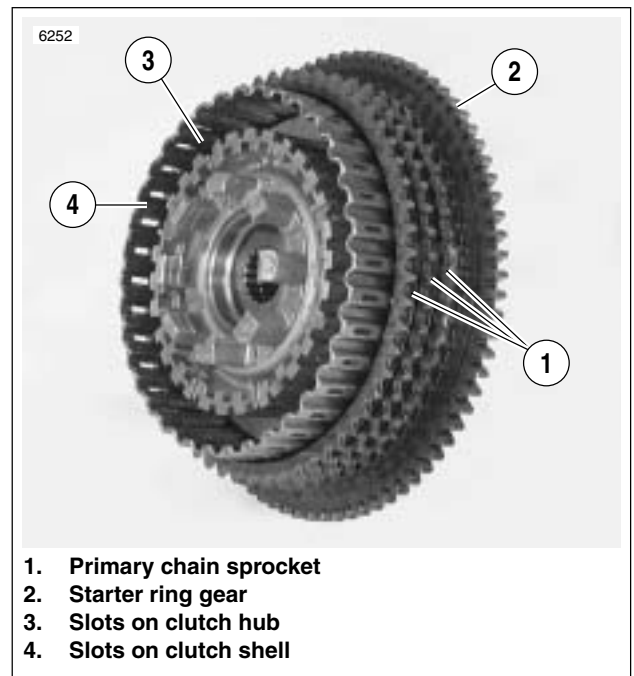

Figure 6-23. Checking Clutch Shell
4. See Figure 6-23. Inspect primary chain sprocket and the starter ring gear on the clutch shell. If either sprocket or ring gear are badly worn or damaged, replace the clutch shell.